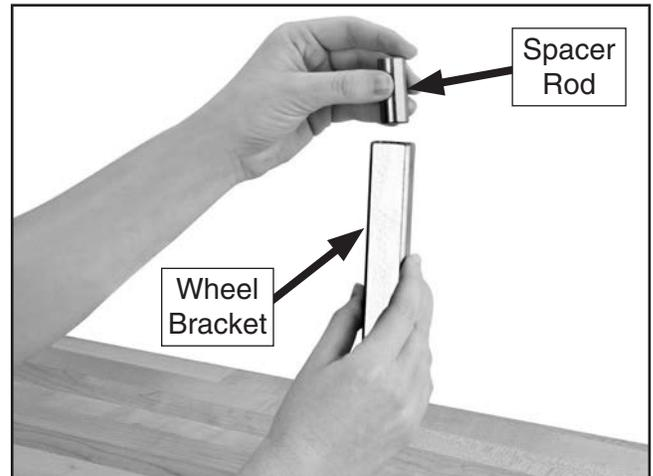

Figure 4. Inserting spacer rod into wheel bracket.
1. Insert bracket spacer rod into bottom of lower wheel bracket, as shown in **Figure 4**.